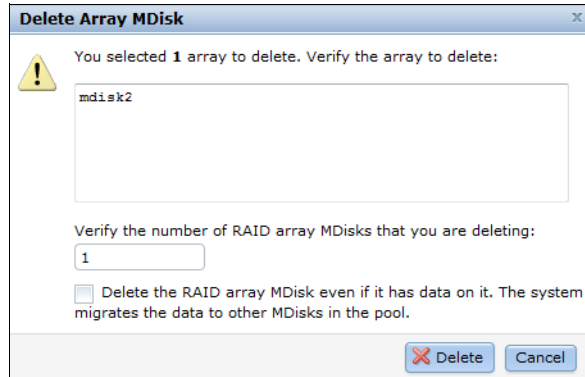

Figure 8-50 Delete Array MDisks window
- ▶ **Delete:** An Array MDisk can be deleted by clicking **RAID Actions** → **Delete**. A confirmation of the deletion by entering the correct number of MDisks to be deleted is required (Figure 8-50). You need to confirm the number of array MDisks you want to delete. If there is data on the MDisk, it can be deleted only by checking the item **Delete the RAID array MDisk even if it has data on it. The system migrates the data to other MDisks in the pool.**